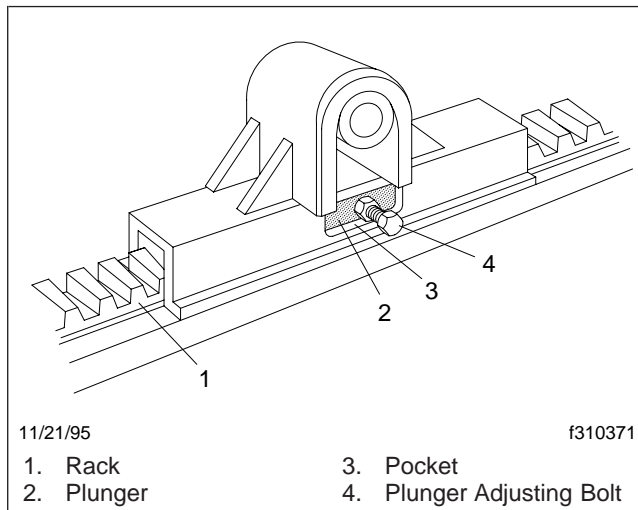

Fig. 3, Locking Plungers
1. Loosen the locking plunger jam nut and turn the adjusting bolt out (counterclockwise). See **Fig. 3**.